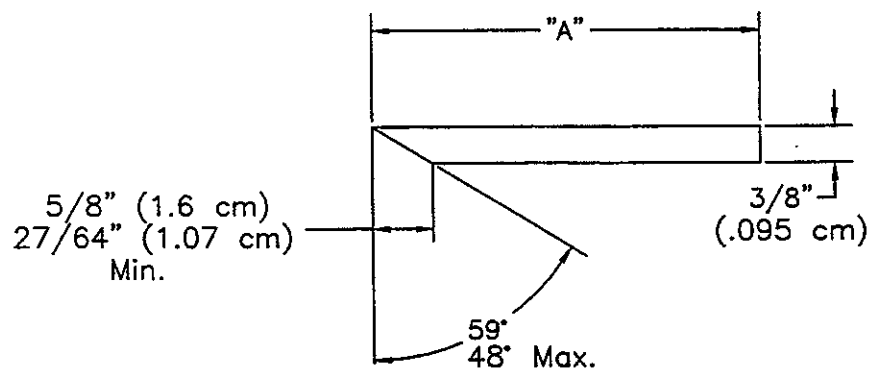

Figure 3
- f) Lay the knife on the knife shelf. Insure the knife is installed with the cutting angle edge facing down as shown in Figure 3. Install loosely the two outer, and the middle knife mounting bolts. Tighten the mounting bolts just enough to hold the knife in position while still allowing it to be moved.